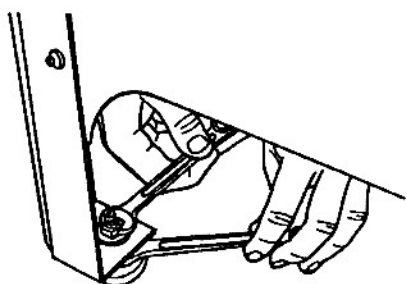

Fig. B-4
- d. When the table is level, use a 9/16" wrench to hold the bottom nut in place and another 9/16" wrench to securely tighten the top nut, as shown in Fig. B-4. Tighten the top nut on the other front leveling foot.